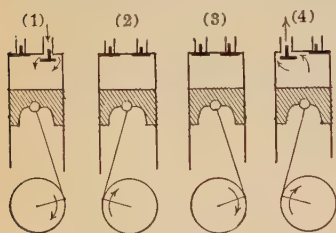

FIG. 193. — Four cycles of a gas engine.
the piston, corresponding to two revolutions of the shaft, are shown in figure 193. It will be noticed that whereas the *two-cycle* type has *no* valves in the cylinder, the *four-cycle* has *two* valves, one for the intake of gas and air and another for the exhaust of the spent gases. These valves are operated mechan-
cally by cams on a small **half-time shaft**, which is driven through gears at half the speed of the main shaft. In figure 193, (1), the intake valve is open, and the piston is going down, thus drawing in the explosive mixture. In (2) the return or back stroke of the piston compresses the mixture. In (3) the mixture has been ignited by an electric spark or flame, and power is obtained from the thrust of the expanding gas on the outward stroke. This is the working stroke. In (4) the exhaust valve is open and the spent gases are being pushed out of the cylinder by the returning piston. Then